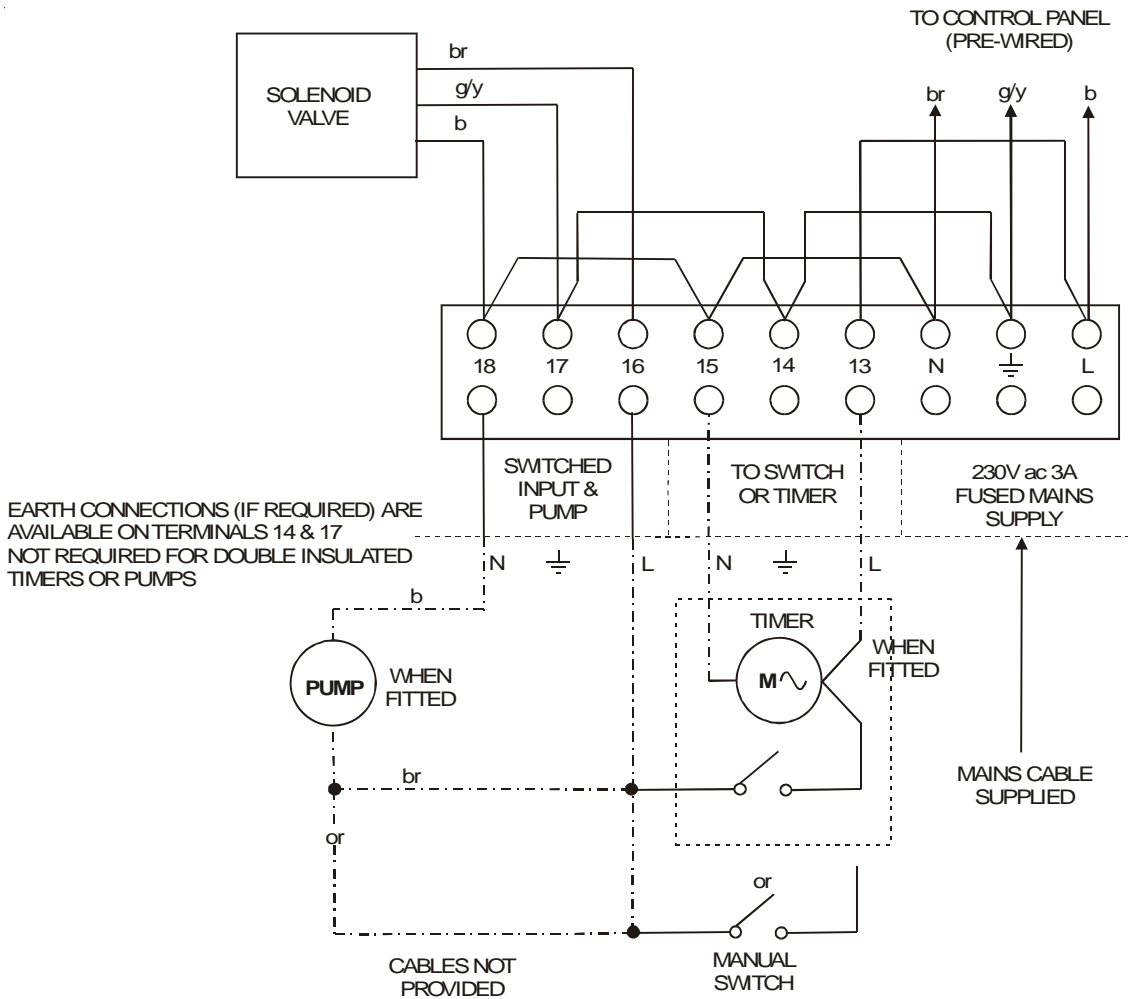

Fig. 3a
- 4.2.1 The following external electrical connections are required. Refer to Fig. 3a, 3b or to the relevant air heater wiring diagram for connection of the circulator (contained within the Air Heater Installation instructions or affixed to the Air Heater).